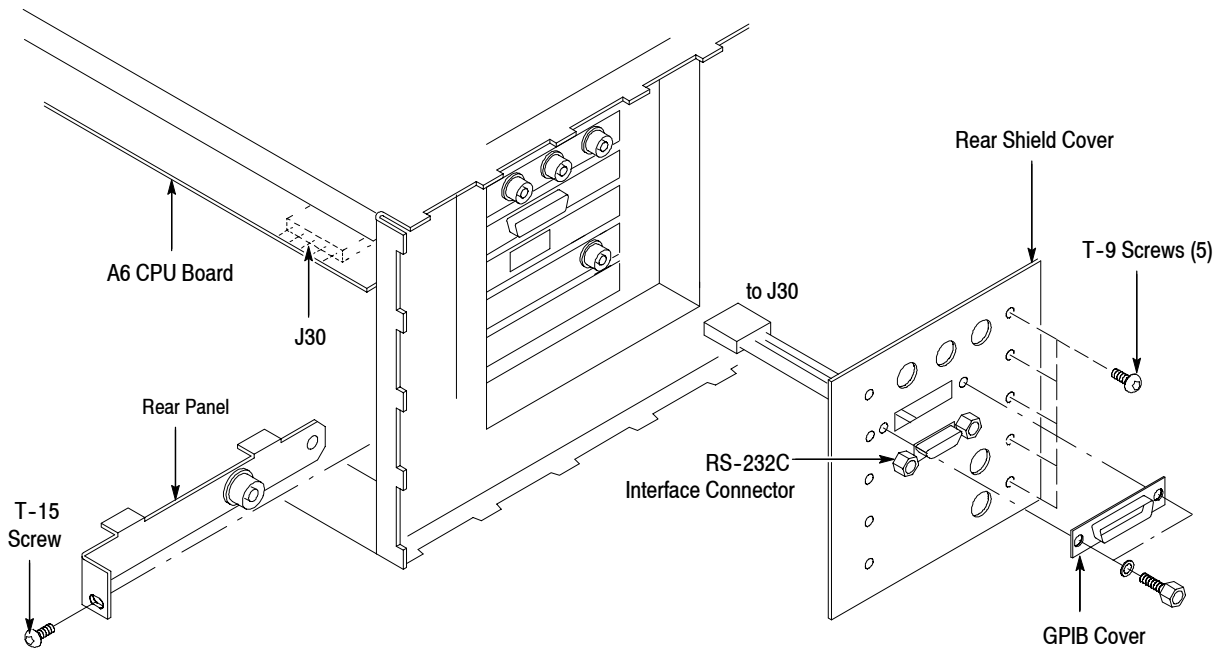

Figure 3: Rear shield cover removal
1. Set the DG2030 with the bottom down on the work surface and the rear facing you (See Figure 3).
2. Disconnect the ribbon interconnect cable from J30 on the A6 CPU board (See Figure 3).